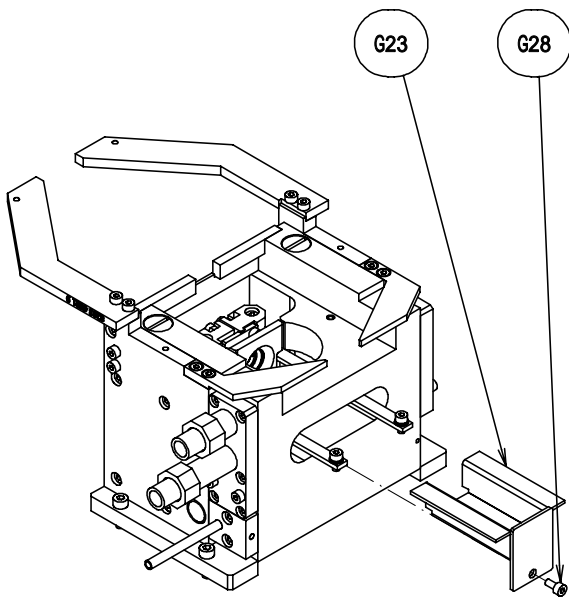

Fig. 20
3. Remove the lead plate cover (G23) (Fig. 20).